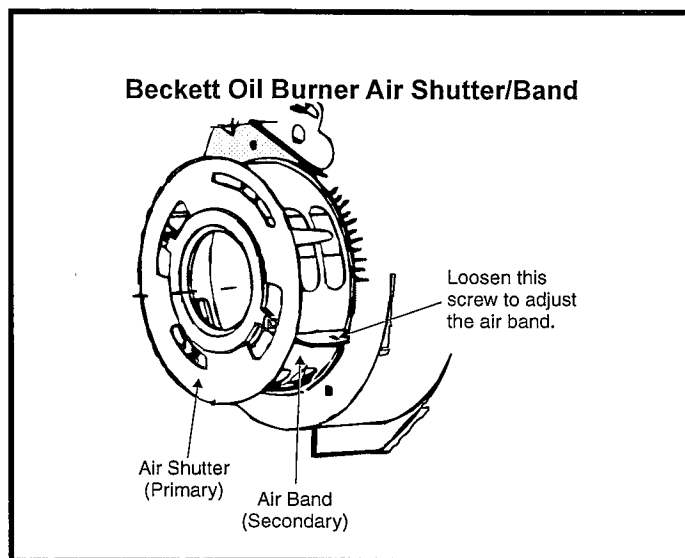

Figure 12
5. If the burner is producing more than #1 smoke, adjust the air shutter (primary), and air band (secondary) to reduce the smoke (see Figure 12). To adjust the air shutter, loosen the top screw on air shutter (and lower screw, if necessary) and rotate the shutter until desired smoke level is achieved. If smoke cannot be reduced to desired level by moving the air shutter, adjust the air band to increase the air. To adjust the air band, loosen the air band screw and rotate the band.